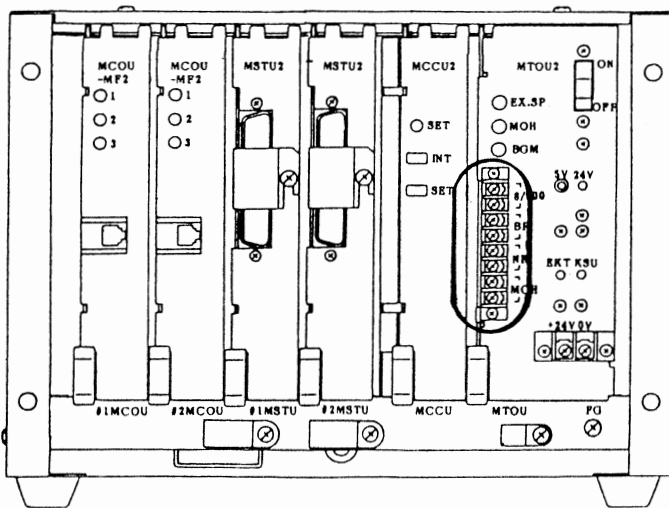

FIGURE 28
- 11.02** All connections to the equipment (other than EKTs or CO/PBX lines) are made via the barrier strip mounted on the front of the MTOU PCB, as shown in Figure 28.